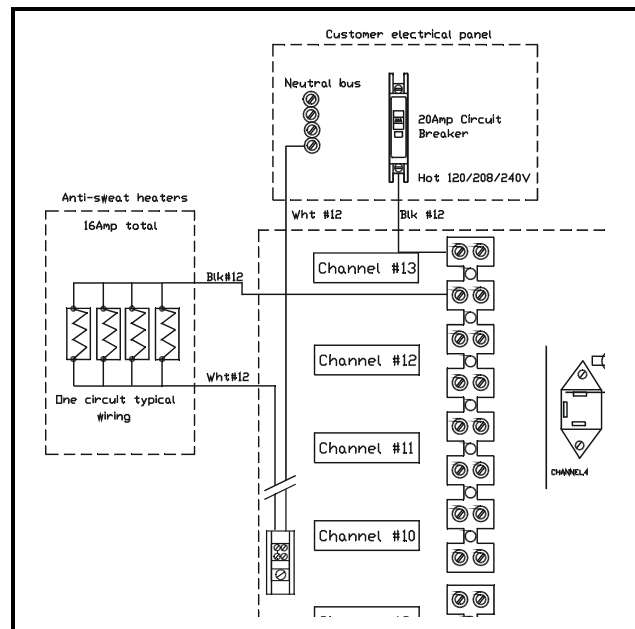

Figure 2-4 - Typical Heater Wiring Layout
3. Provide power to the case heaters from the store circuit breaker panel *through* the PMAC II panel terminal strip using #10-12 AWG wire, as shown in **Figure 2-4**.